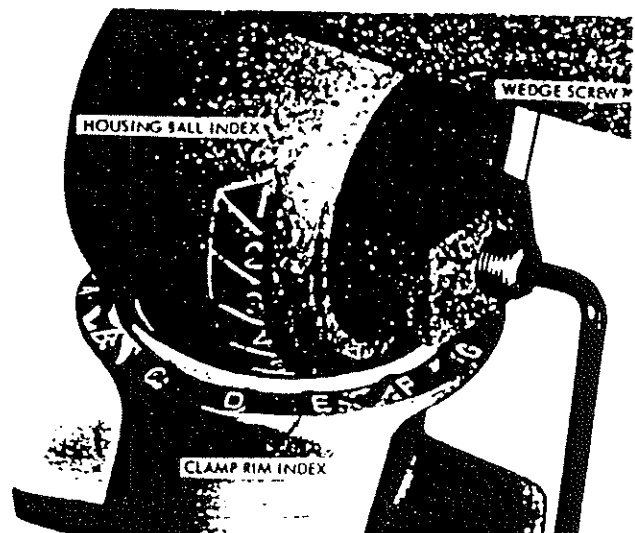

FIGURE 4. POSITIONING INDEXES
- 5-1. The positioning device of the mixer combines a vertical index on the ball of the housing and a horizontal index on the ram of the clamp socket. Mixing positions are established by referencing one index against the other. Figure 4 shows the indexes in D-5 position, a typical setting. To change the mixing position, loosen the wedge screw, adjust the mixer by its motor handle, and tighten the wedge screw. The wedge screw has a limited amount of travel before the wedge bottoms against the king bolt. If the wedge does eventually bottom, readjust the wedge assembly per 8-9, Step c.